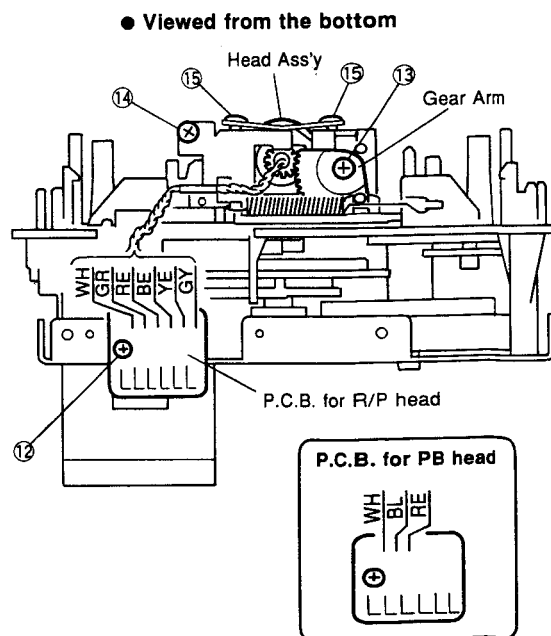

Fig. 7
- Remove 1 screw (⑫) and then remove the P.C.B. for head in Fig. 7.
- Remove 1 screw (⑬) and then remove the Gear Arm in Fig. 7.
- Remove 1 screw (⑭) and 2 screws (⑮) and then remove the Head Ass'y in Fig. 7.